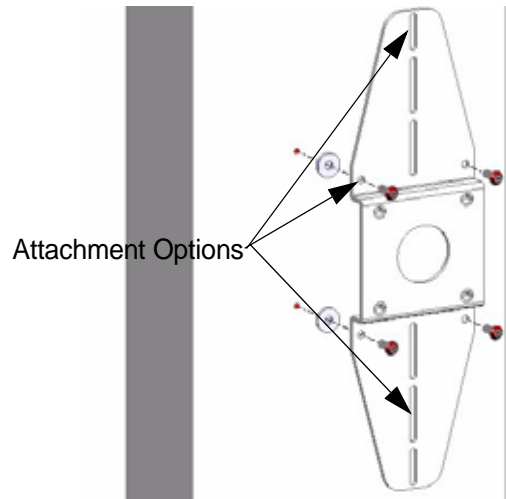
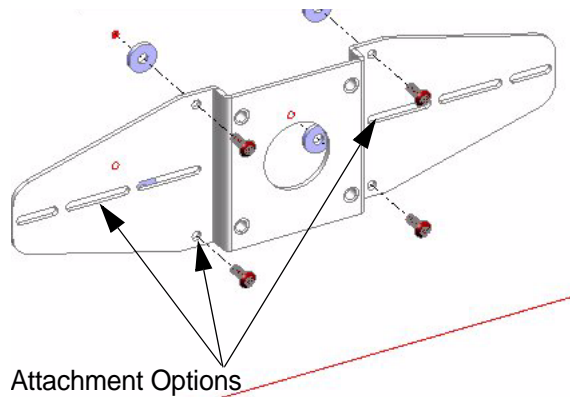
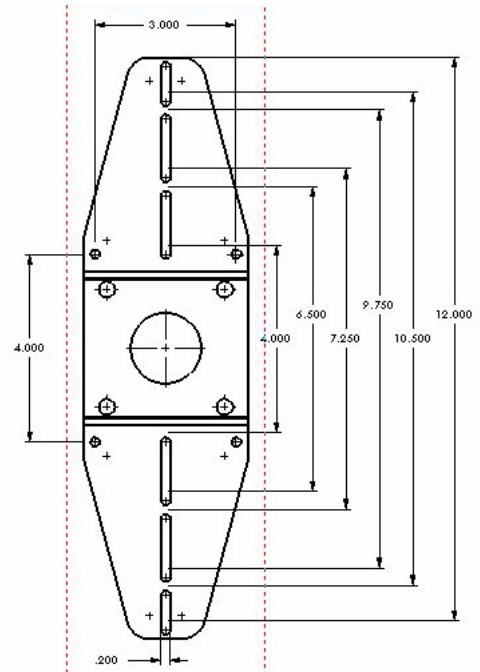

Figure 10. Vertical Bracket Mounting Option
Figure 11. Horizontal Bracket Mounting Option
Figure 12. Bracket Dimensions
1. If speakers have inserts for brackets, install two speaker brackets (50) on speaker (see Figure 10 and Figure 11). Brackets may be vertically or horizontally using the 3”X4” pattern and/or slotted holes.
3. After confirming with your speaker manufacturer that you can drill holes for attaching mounting brackets, drill holes and attach mounting bracket (see Figure 10, Figure 11 and Figure 12). Brackets may be vertically or horizontally using the 3”X4” pattern and/or slotted holes.